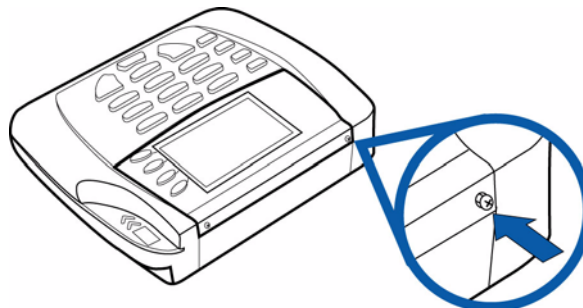

Figure 16 Tighten Retaining Screws
- 3 Tighten the two retaining screws (Figure 16).